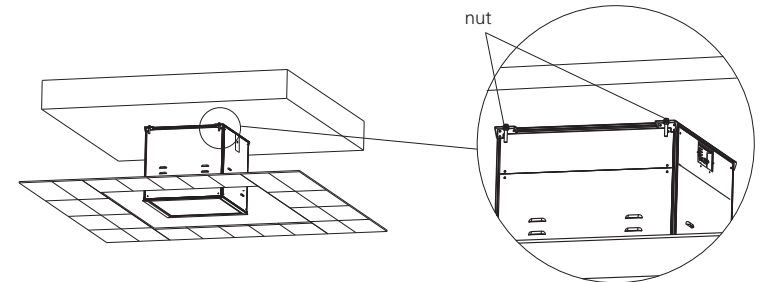

figure 6
3. Figure 6, install the projector lift and fasten. The low frame of projector must align to ceiling.